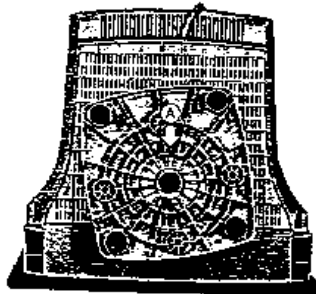

Figure 2-1 Remove the Base
1. Remove the screw at the base. Refer to the figure 2-1 (A).